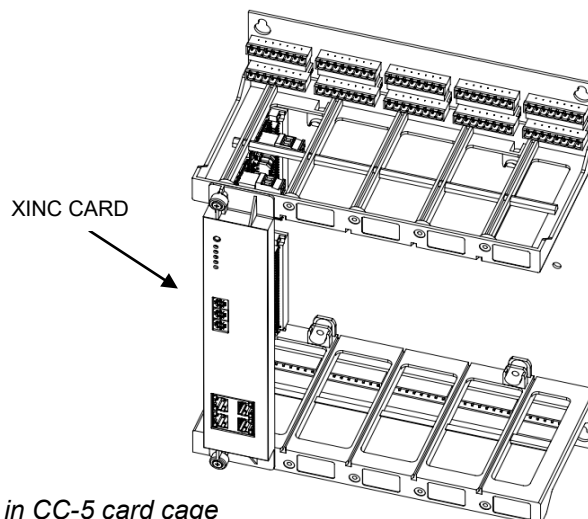

Figure 5
5. Refer to the site specific shop drawing (Figure 5) to determine which slot position on the card cage the XINC card is to be installed in. Tighten the captive bezel retaining screws on the XINC card bezel at the top and bottom mating surfaces so that the XINC card is securely held in place in the Card Cage. Install the XINC card into the card cage slot according to instructions provided in Siemens Industry, Inc., Building Technologies Division Document number A6V12412368 *Installation Instructions for the Model XINC Card*.